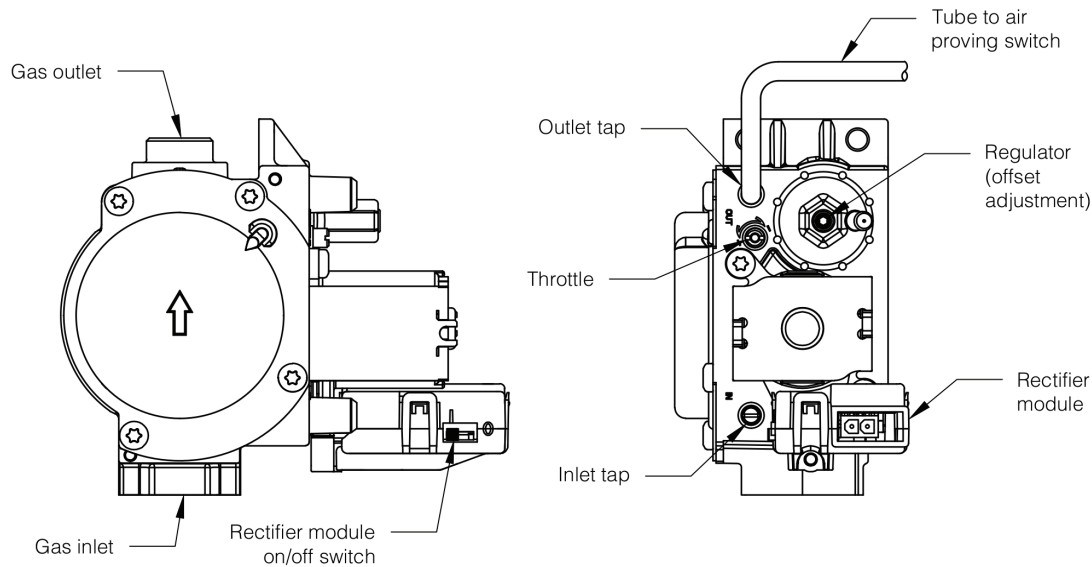

Figure 12.4: Gas Valve Detail
- a. With burner at high fire, adjust gas valve throttle (Fig 12.4) as needed to obtain CO2 (or O2) setting shown in Table 12.5A.
- b. With the burner at low fire, adjust gas valve offset regulator (Fig 12.4) as needed to obtain CO2 (or O2) setting shown in Table 12.5A.